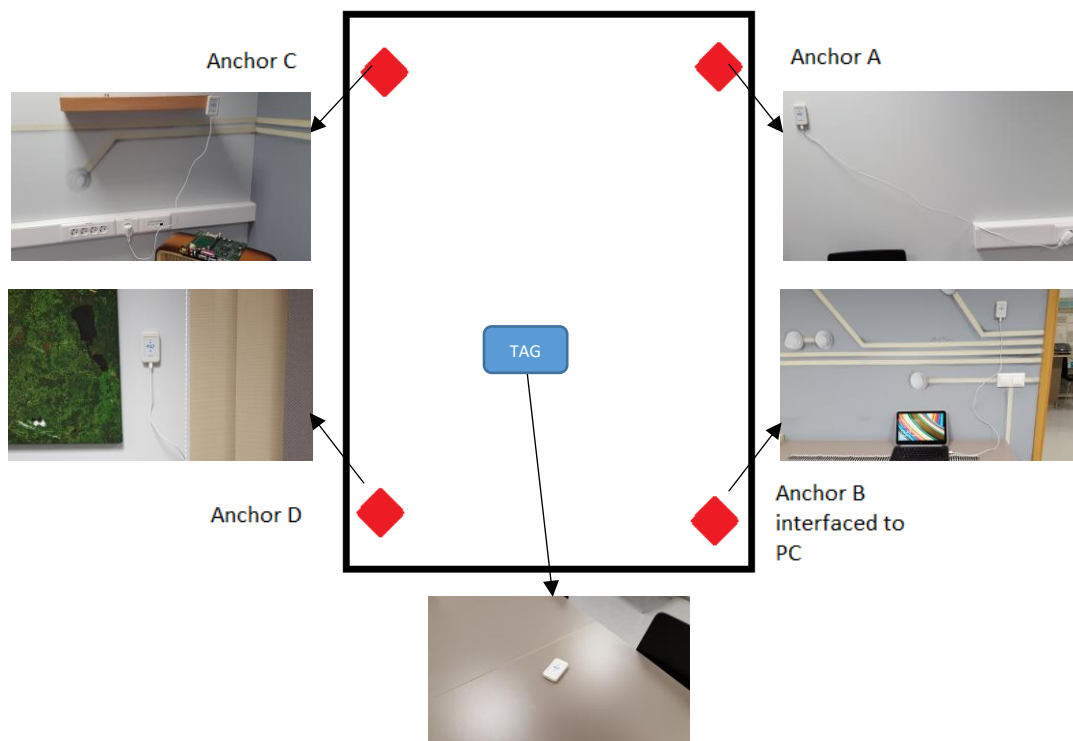

Fig. 2: Installation example of anchors for 2D positioning
- c. The placement of anchors should follow a triangular or rectangular pattern shape (Fig. 2, 3). The line of sight distance between devices should not exceed 20-25 meters (65-80 ft.).
The operation accuracy of the KIO RTLS system relies on a reliable radio signal reception and proper placement of anchors as intentional UWB receivers. Anchors should be placed in the perimeter of small rooms. For large rooms, several RTLS cells have to be installed. It is recommended to place anchors above major obstacles in the room, for example furniture. The anchors may be installed on the same height for 2D positioning (Fig. 2). For accurate 3D positioning, anchors A and D should be installed higher (for example close to the ceiling) and B, C lower (for example on the floor level). For shown current 30m² (330 sq ft) 2D test site has 4 C4 KIO anchors and 1 battery powered tag (KIO Tag B4). Anchors are mounted 1.2m (4 ft) from the floor. Anchors A, C, D are powered from USB wall supplies. Anchor B is connected to a PC and is used for collecting the tag ranging data.